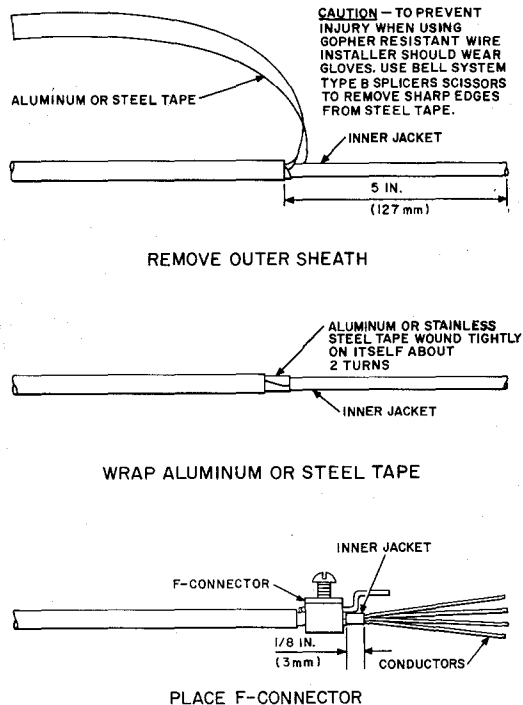

Fig. 25—Preparing B or C Service Wire for Bonding of Metal Shield
connected to the shield of a service wire in the same manner as the F connector (Fig. 25).
6.11 See Table E for ground clamp selection. See Table F and Fig. 25, 52, 53, 54, and 55 for wire connectors. Connections to building steel may be made by using a C or D insulator support (Fig. 56).